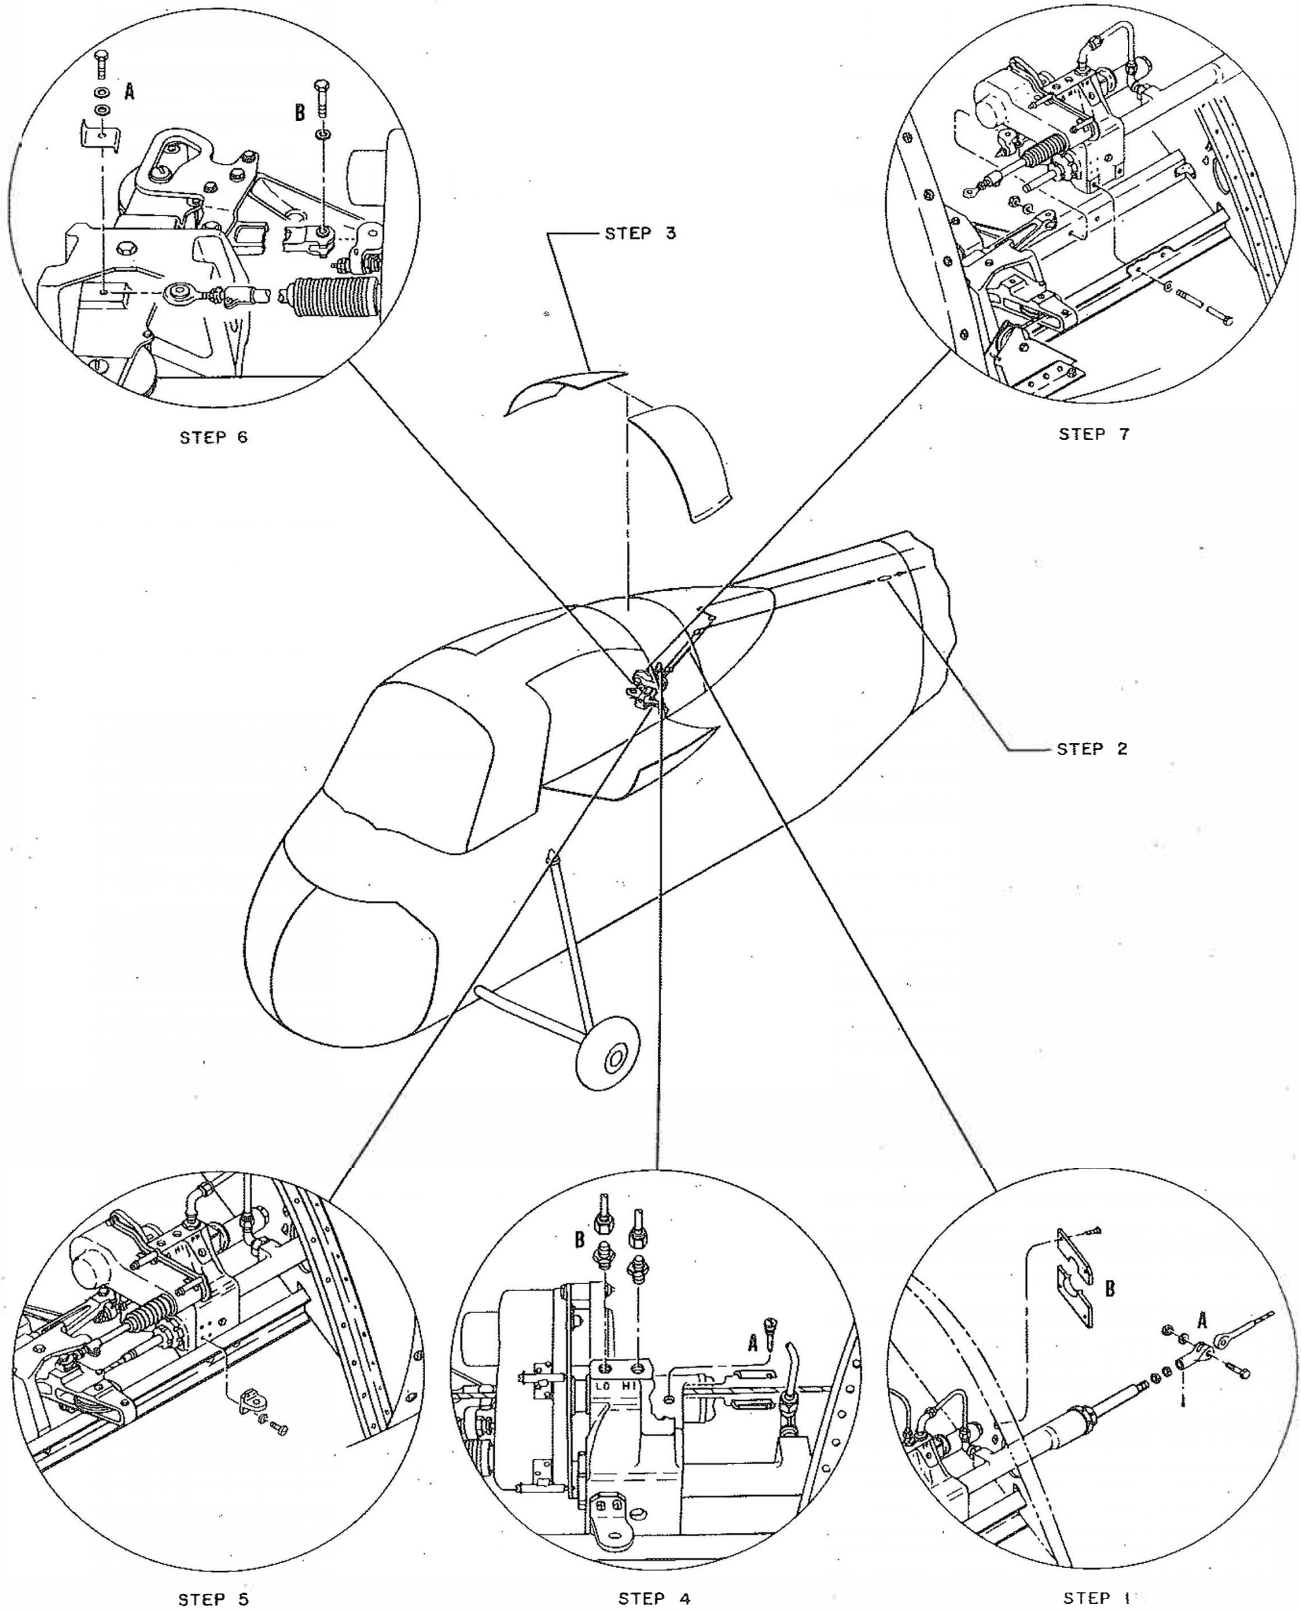

Figure 2-52. Tail Rotor Servo Unit Removal
nuts from the cable at "A" (step 1, figure 2-52). Remove the clamp around the servo unit cylinder at the frame at "B."
a. Bolt the tail rotor servo unit to the supporting channel. (See step 7, figure 2-52.)